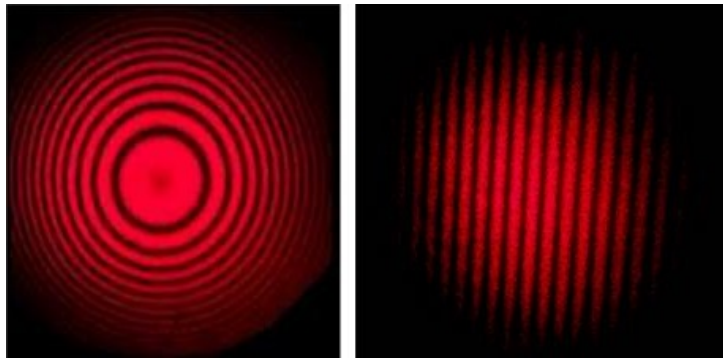

Figure 8: Fringe Patterns To Be Observed
-We need to do this so that they interfere with each other and hence create the fringe patterns as seen in Figure 8 below, enabling us to observe and use them.